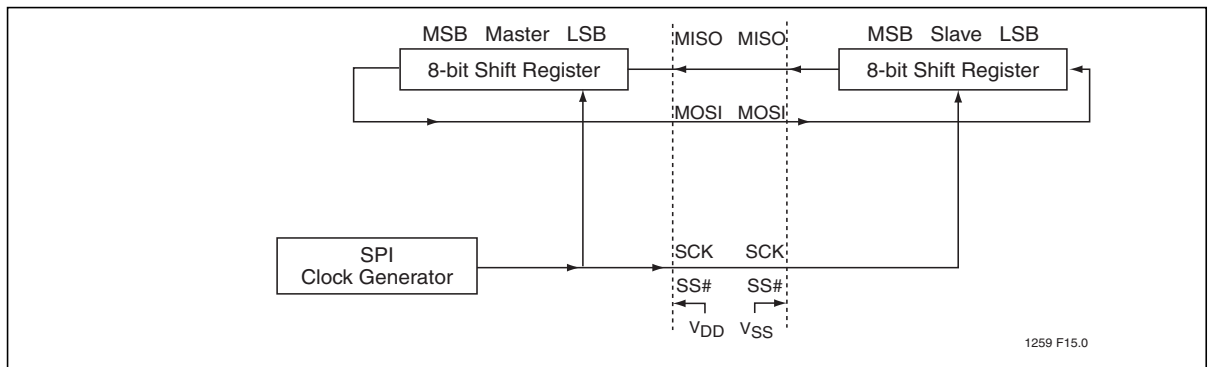

Figure 13: SPI Master-slave Interconnection
Figure 13 shows the correspondence between master and slave SPI devices. The SCK pin is the clock output and input for the master and slave modes, respectively. The SPI clock generator will start following a write to the master devices SPI data register. The written data is then shifted out of the MOSI pin on the master device into the MOSI pin of the slave device. Following a complete transmission of one byte of data, the SPI clock generator is stopped and the SPIF flag is set. An SPI interrupt request will be generated if the SPI Interrupt Enable bit (SPIE) and the Serial Port Interrupt Enable bit (ES) are both set.